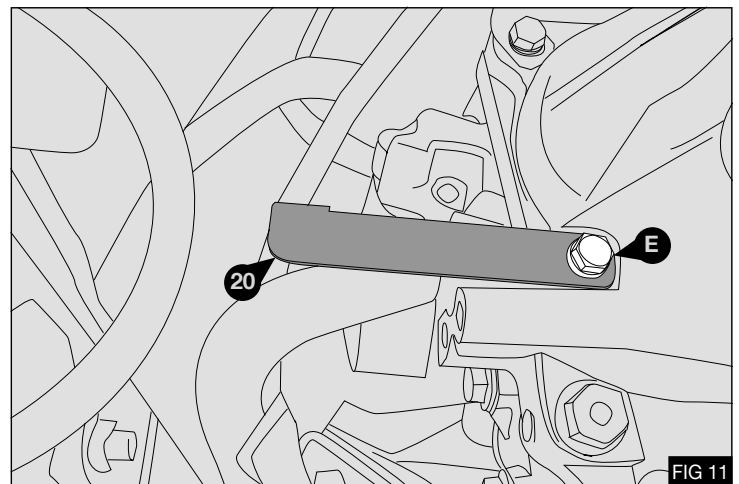

FIG 11
1. Temporarily remove the bolt (E) securing the starter motor - Fig 11
2. Fit the hose support bracket (20) and secure with the original bolt (E) - Fig 11
3. Torque bolt (E) to 30 Nm / 22 lb ft.